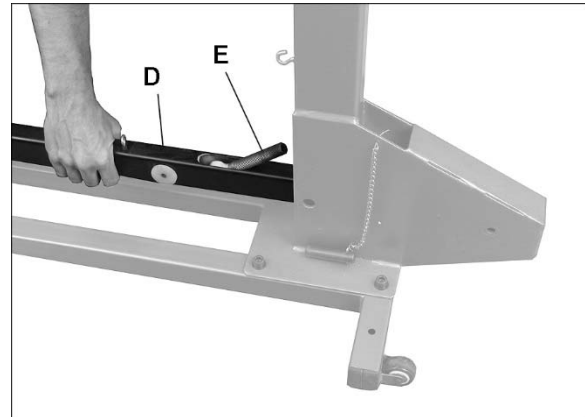

Figure 5-2
2. Insert foot pedal assembly (D, Figure 5-2) into stand. Make sure threaded link stud (E) is pointed toward stand.